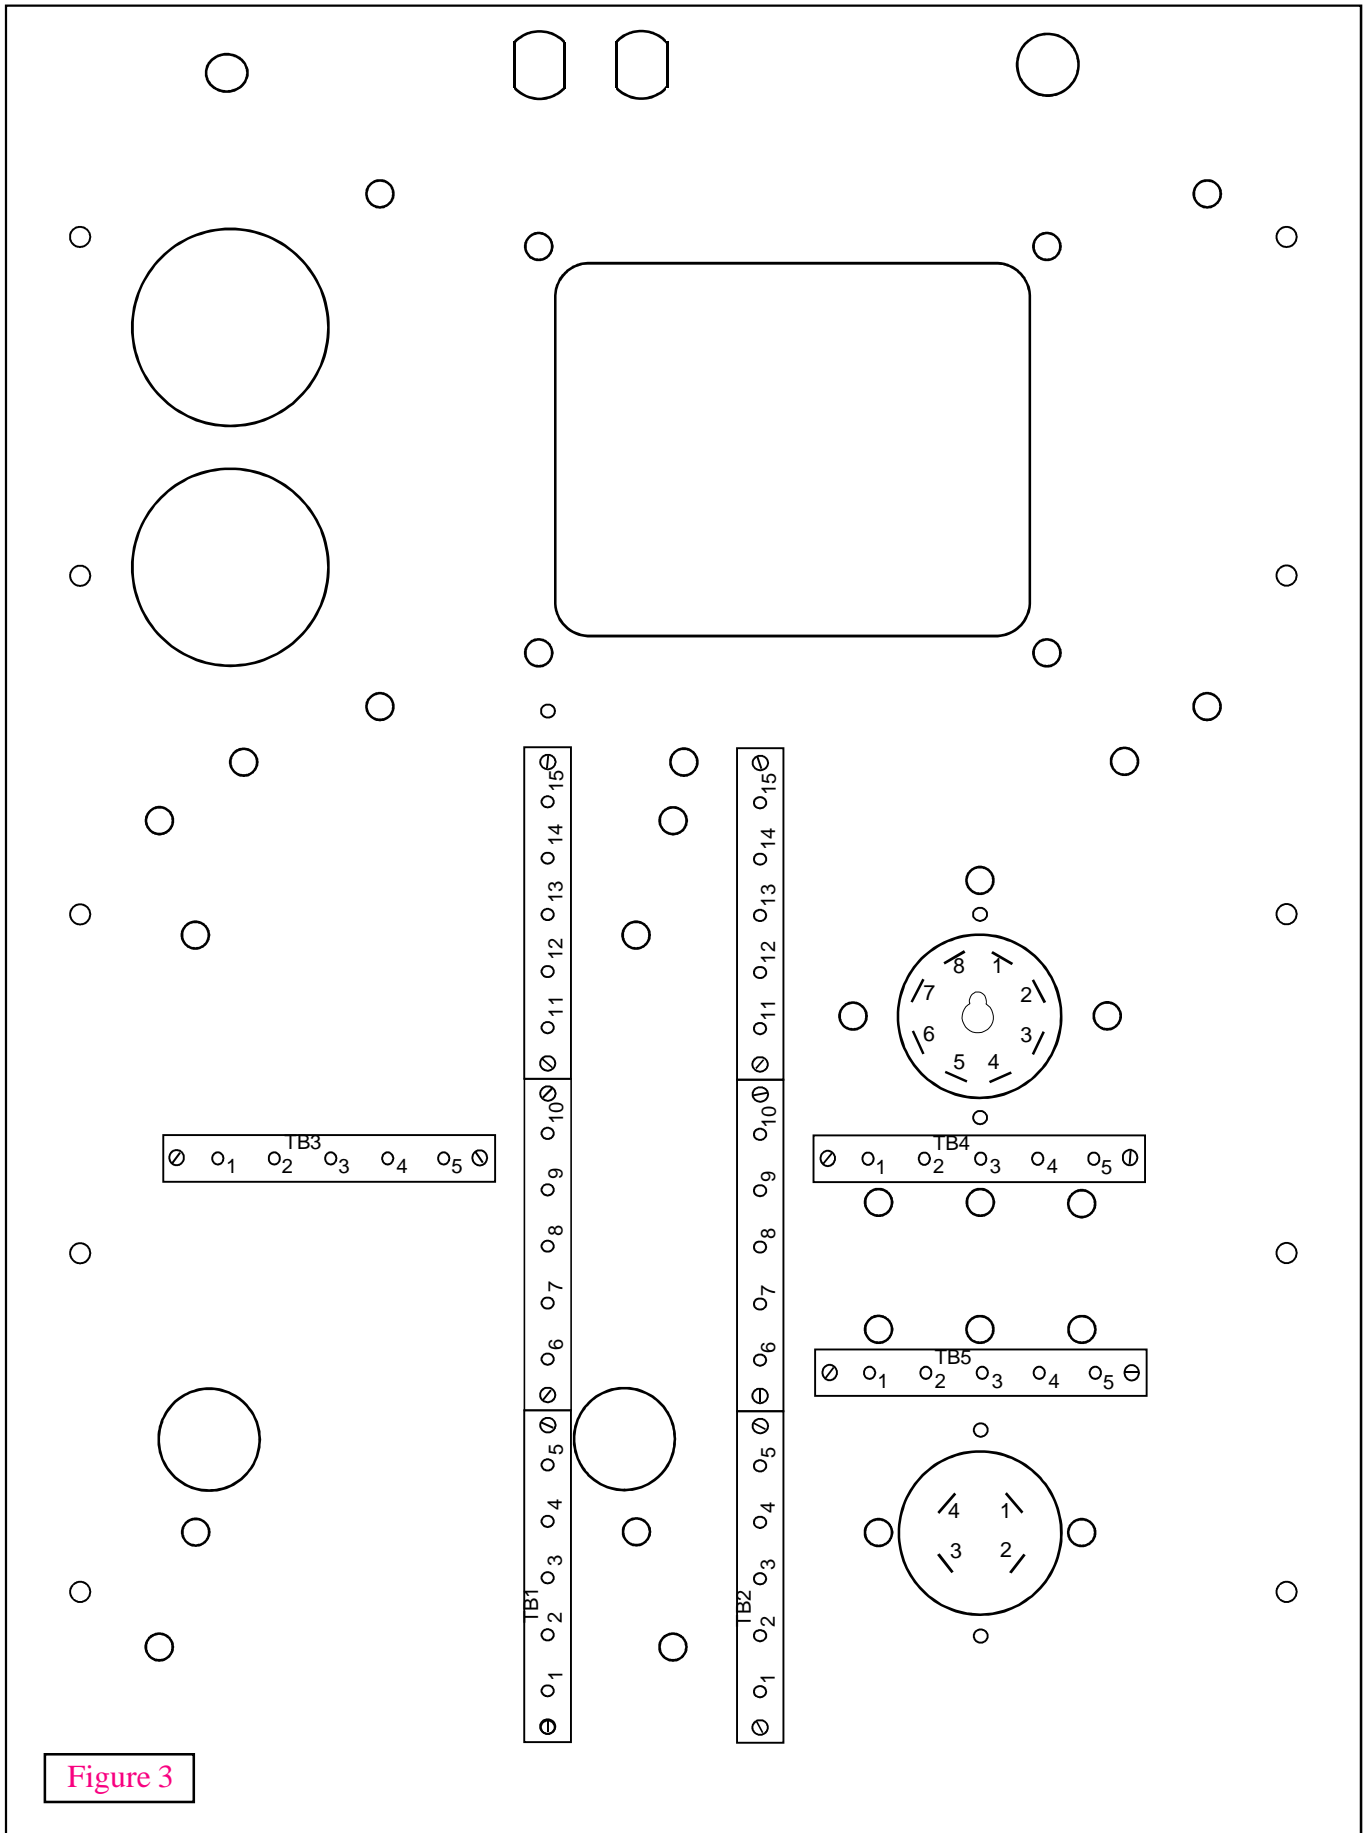

Figure 3
- 1) To begin, remove the large chassis plates from their wooden bases and lay the plates upside down, on a padded surface, with the terminal boards facing up. Mount the tube sockets using the supplied hardware and in the direction shown in figure 3.
The lugs of the terminal boards TB1, TB2, TB3, TB4 and TB5 have been numbered (refer to figure 3) to facilitate assembly. In subsequent steps a specific terminal board solder lug will be referenced by the terminal board number followed by the lug number. For example: "solder a black wire from TB3-4 to TB1-2", refers to lug #4 of terminal board TB3 and lug #2 of terminal board TB1.